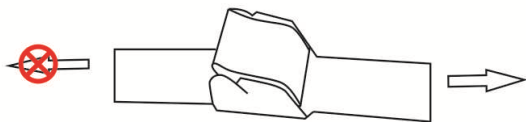
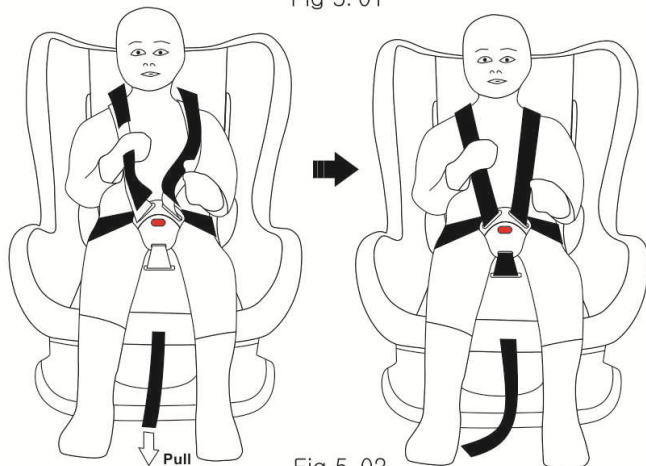

Fig 5.01
Fig 5.02
5.1.1 Regularly, the harness adjuster is locked (Fig 5.01). So the harness adjust strap only could be pulled outward. Just pull it outward with one hand, then the shoulder harness can be tightened. (Fig 5.02).